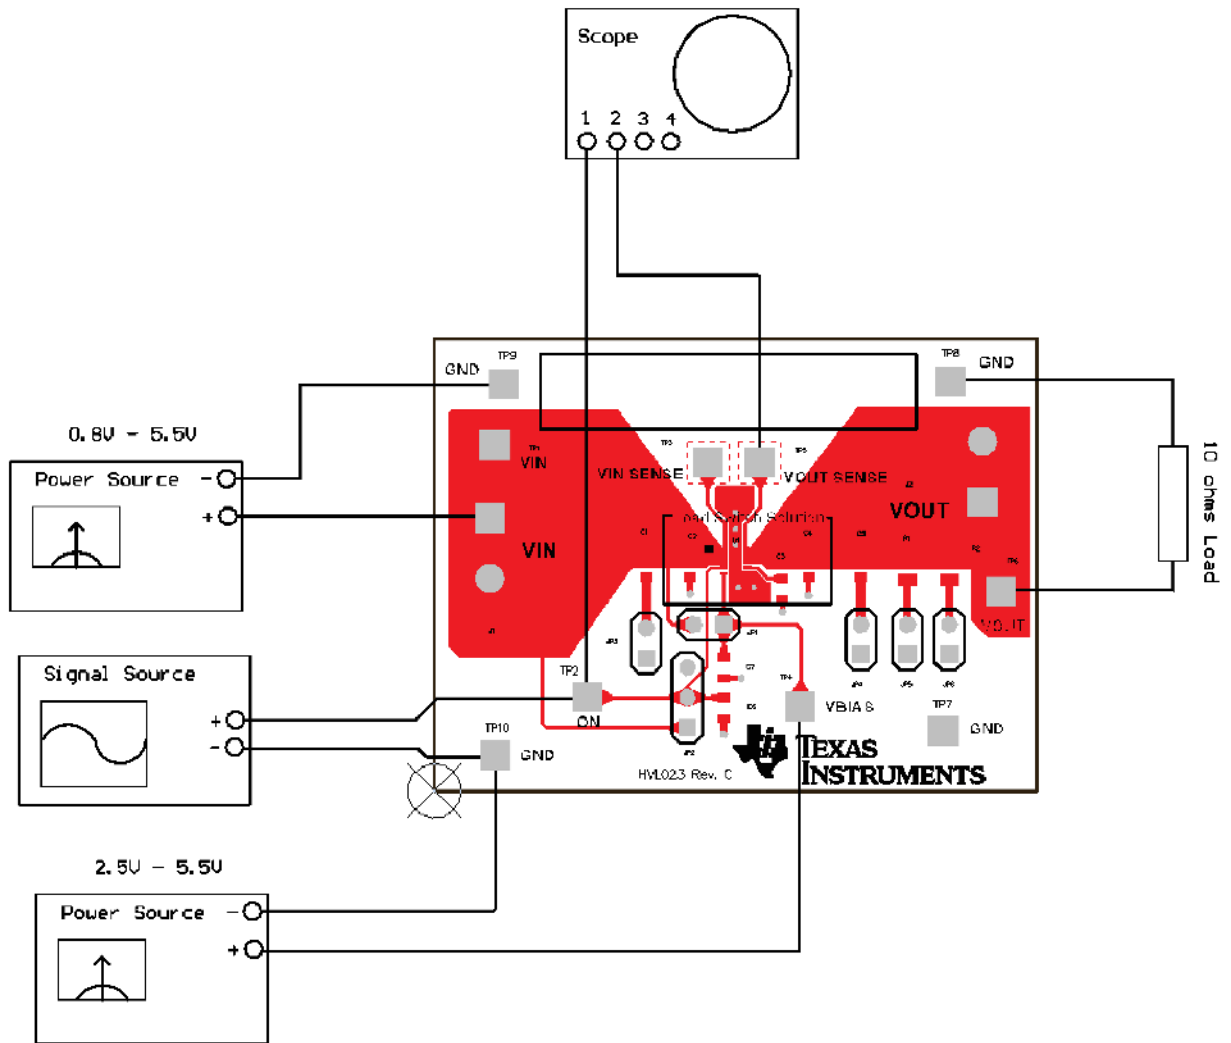

Figure 6. TPS22965EVM-023 Recommended Trise Test Setup
1. Set up the EVM per Figure 6.